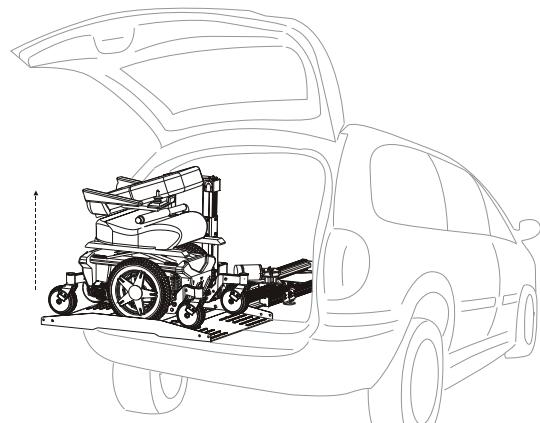

Figure 3-5
5. Double-check that the mobility device is secured properly on the platform. While holding the hand control, stand to the side and away from the lift. Press the "Up" button. When the platform stops retracting, release the button. The platform will automatically lock itself into a travel position. Close the door slowly, making sure that no part of the mobility device or other objects in the cargo area contacts the door. *See Figure 3-5.*